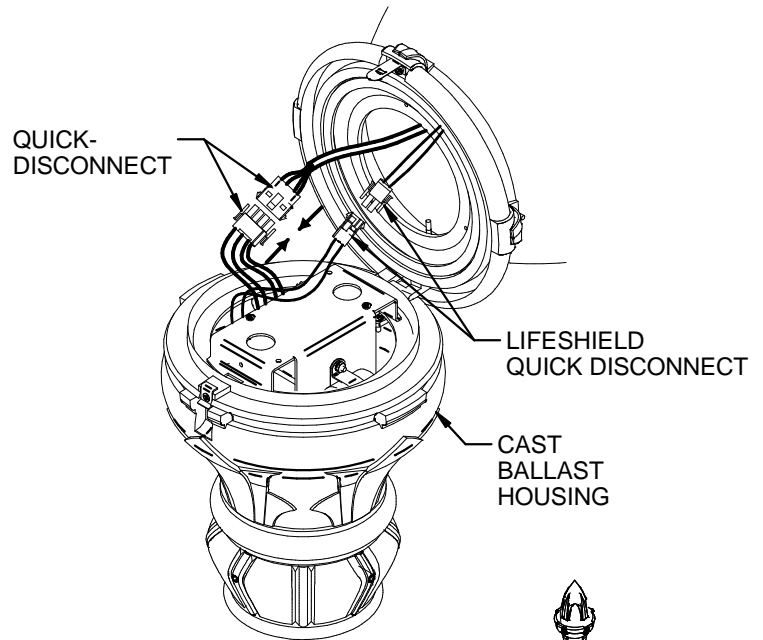

FIG. 4-2
3. MAKE WIRE CONNECTIONS BY CONNECTING QUICK DISCONNECT FROM DRIVER ASSY TO SOCKET ASSY AND LIFESHIELD QUICK DISCONNECT. (FIG. 4-2)